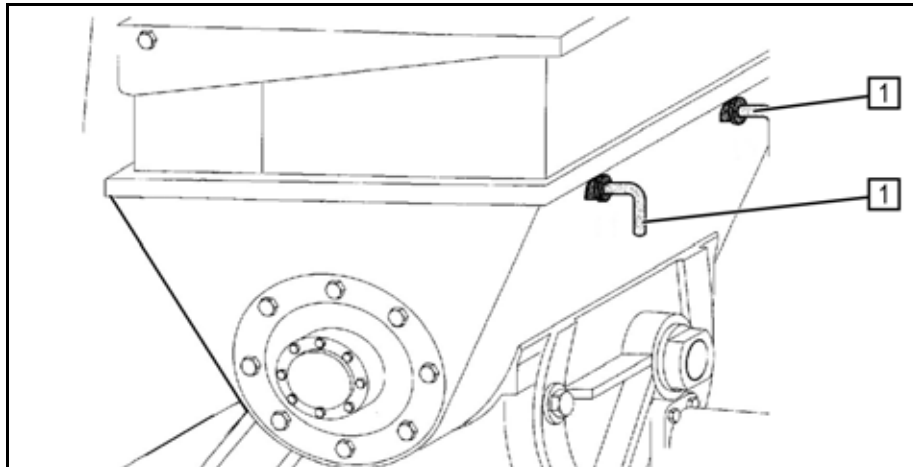

Fig. 51 Concrete filling hopper
- Check the lock on the mesh in the concrete filling hopper (e.g. locking bar 1, (Fig. 51 Concrete filling hopper)).